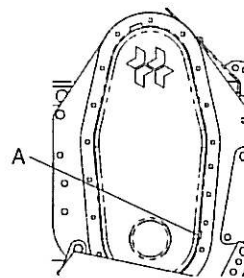

Fig. 2
1. The gearcase filled to the level plug (A) (fig. 2) Capacity: 1 l. Use SAE 90 oil.